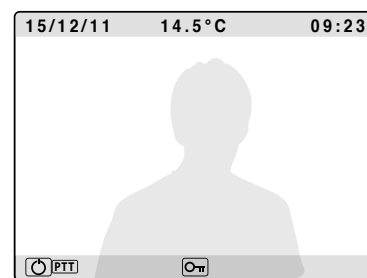

Fig. 13
- To switch from hands free to push to talk mode, keep pressed the until the related LED starts to flash slowly (**Fig. 13**). Keep pressed the button to talk to the visitor (the LED flashes quickly) and release the button (the LED flashes slowly) to listen the visitor;